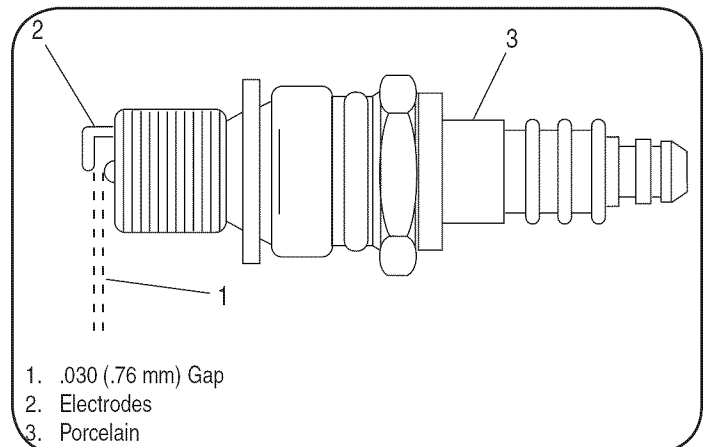

Figure 15
- Check electrode gap with a feeler gauge and set gap to .030 (0.76mm) if necessary. See Figure 15.